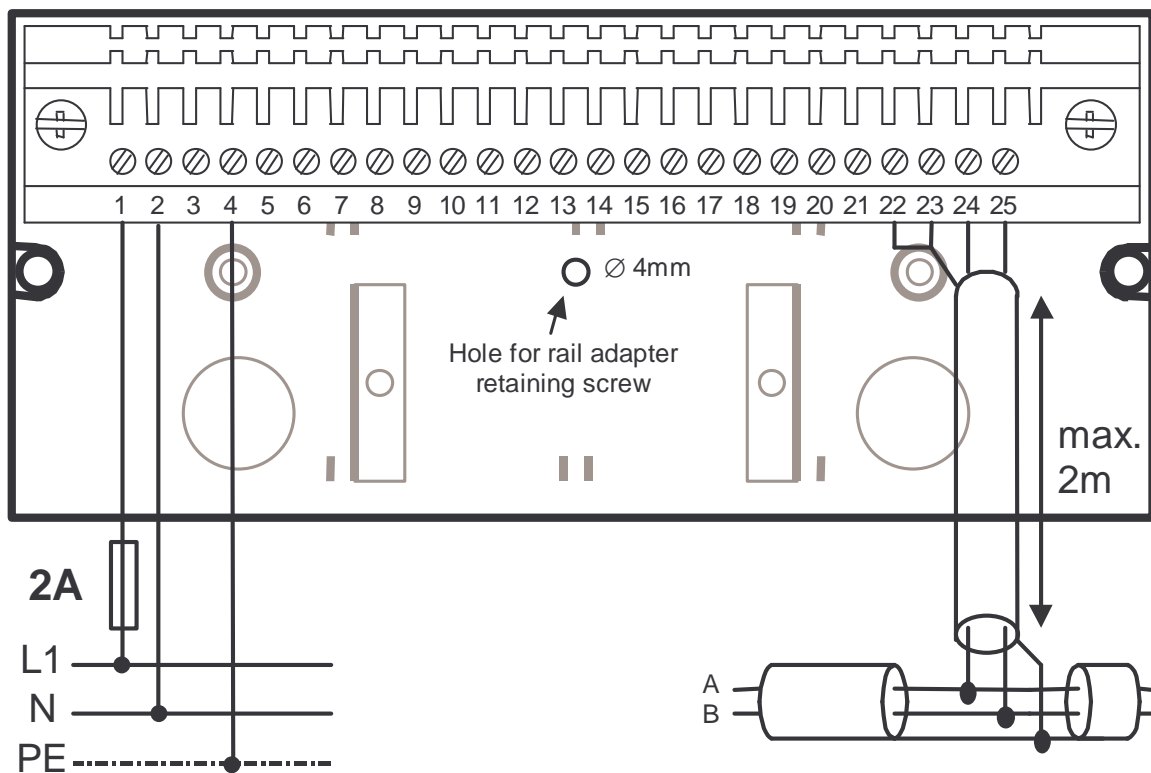

Figure 2: Wiring diagram
- The instrument is connected according to the wiring diagram: Figure 2, on page 8.
For rail mounting, a 4 mm diameter hole must first be drilled in the middle of the instrument base at the position marked on its underside (see Figure 2).
The instrument is connected according to the wiring diagram (Figure 2 below).
The required power supply is 230 V AC, 50 / 60 Hz. This is connected to the **230V ~** terminals as shown in the wiring diagram (Figure 2 on page 8).
The bus cable is connected to the terminals **Bus A**, **Bus B** and **Bus ⊥** in the instrument base as shown in the wiring diagram (Figure 2 on page 8). Terminal 22 also provides a connection for **Bus ⊥**.